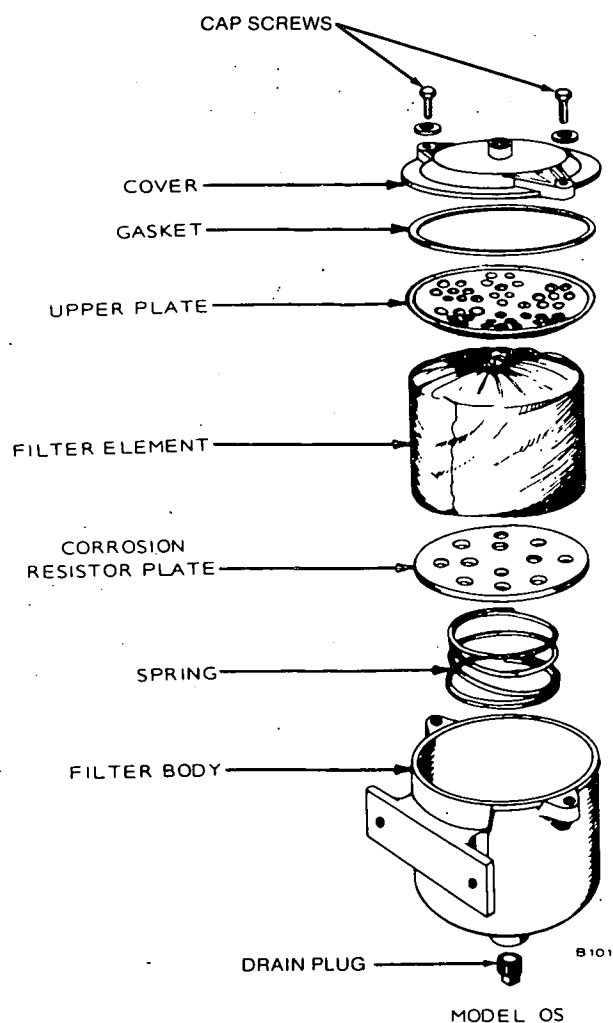

FIGURE 27. CHANGING CORROSION RESISTOR ELEMENT AND PLATE
4. Remove capscrews attaching filter cover to body and remove cover (Figure 27).